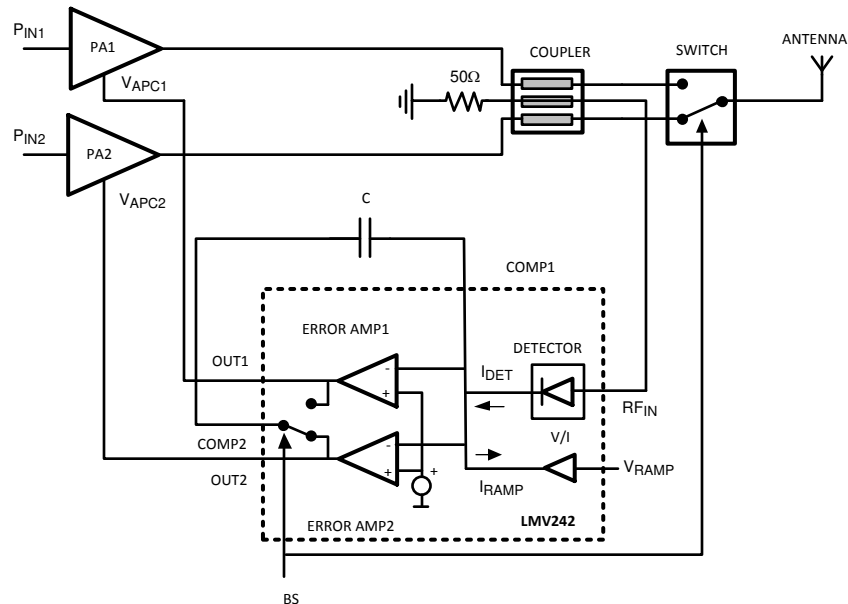

Figure 7-1. PA Control Loop
Figure 7-1 depicts a typical setup of a power amplifier (PA) control loop. Beginning at the output of the PA, this input is input to a detector, typically through a directional coupler. The error between detector output current I_{DET} and ramp current I_{RAMP}, representing the selected power setting, drives the inverting input of an op amp configured as an integrator. A reference voltage drives the noninverting input of the op amp. Finally, the output of the integrator op amp drives the gain control input of the power amplifier, which sets the output power. The loop stabilizes when I_{DET} is equal to I_{RAMP}.